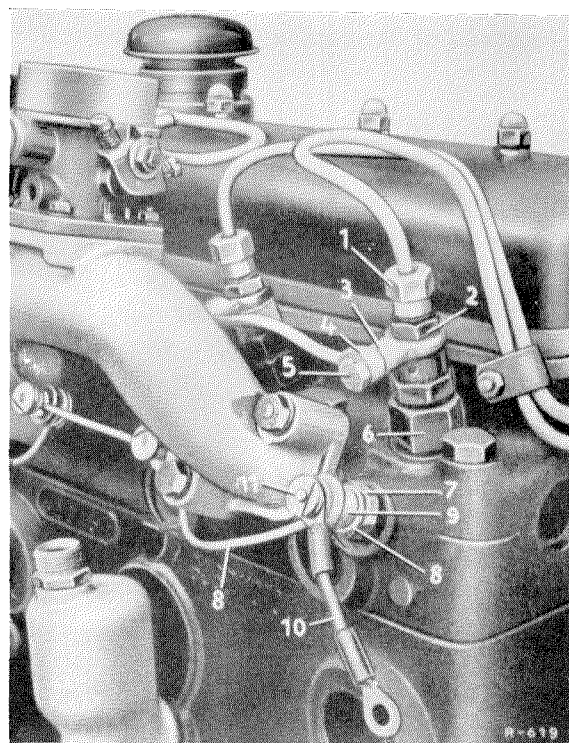

Figure 01-1/1
2. Unscrew the cap nut (1) securing the injection line (see Figure 01-1/1).
3. Unscrew the hex nut (2) securing the adapter (3) and the hollow screw (5) connecting and securing the drip-oil line (4) (Figure 01-1/1). If all 4 nozzle holders are removed, disconnect the drip-oil line at the T-section (connector of drip-oil line, by-pass line and return line) and remove the drip-oil line.
**Note:** The hollow screw (5) securing the drip-oil line (4) must only be loosened after loosening the hex nut (2) of the adapter (3). This prevents the nozzle holder (6) from being loosened instead of the hex nut (2) if the latter should stick. If the nozzle holder starts to unscrew too, hold it in place with a spanner 24 mm wide.
4. Unscrew the nozzle holder (1) with injection nozzle by using the Box Spanner Insert Part. No. 3125890009 and remove the sealing ring (4) (also called nozzle ring, see Figure 01-1/9). Cover the hole to keep out dust and foreign bodies.